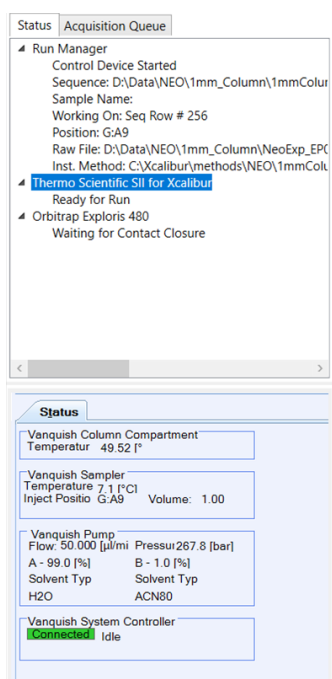

Figure 60: The Xcalibur status and mini ePanel display shown after an attempt has been made to inject from an empty vial position.
- Right click “Thermo Scientific SII for Xcalibur” in the status window (Figure 60) and select “Turn device off” and then “Turn device on”.